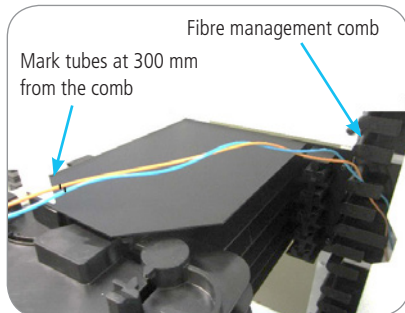

Figure 6.
- Mark the tubes at a distance of 300 mm from the comb. See **figure 6**.